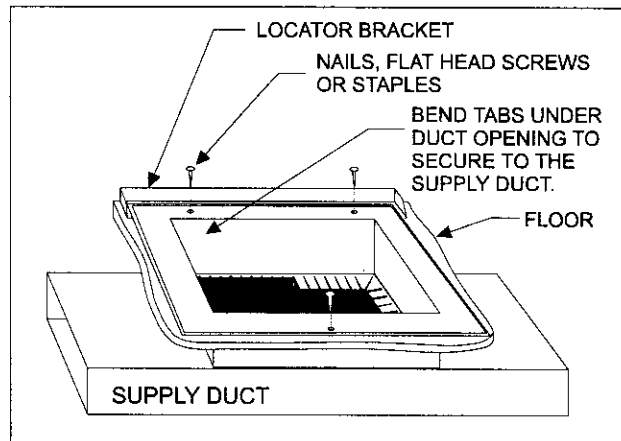

**FIGURE 11 : Duct Connector Screw Attachment**
3. Place locating bracket (supplied with the duct connector) to the back edge of the floor opening. See Figure 11.